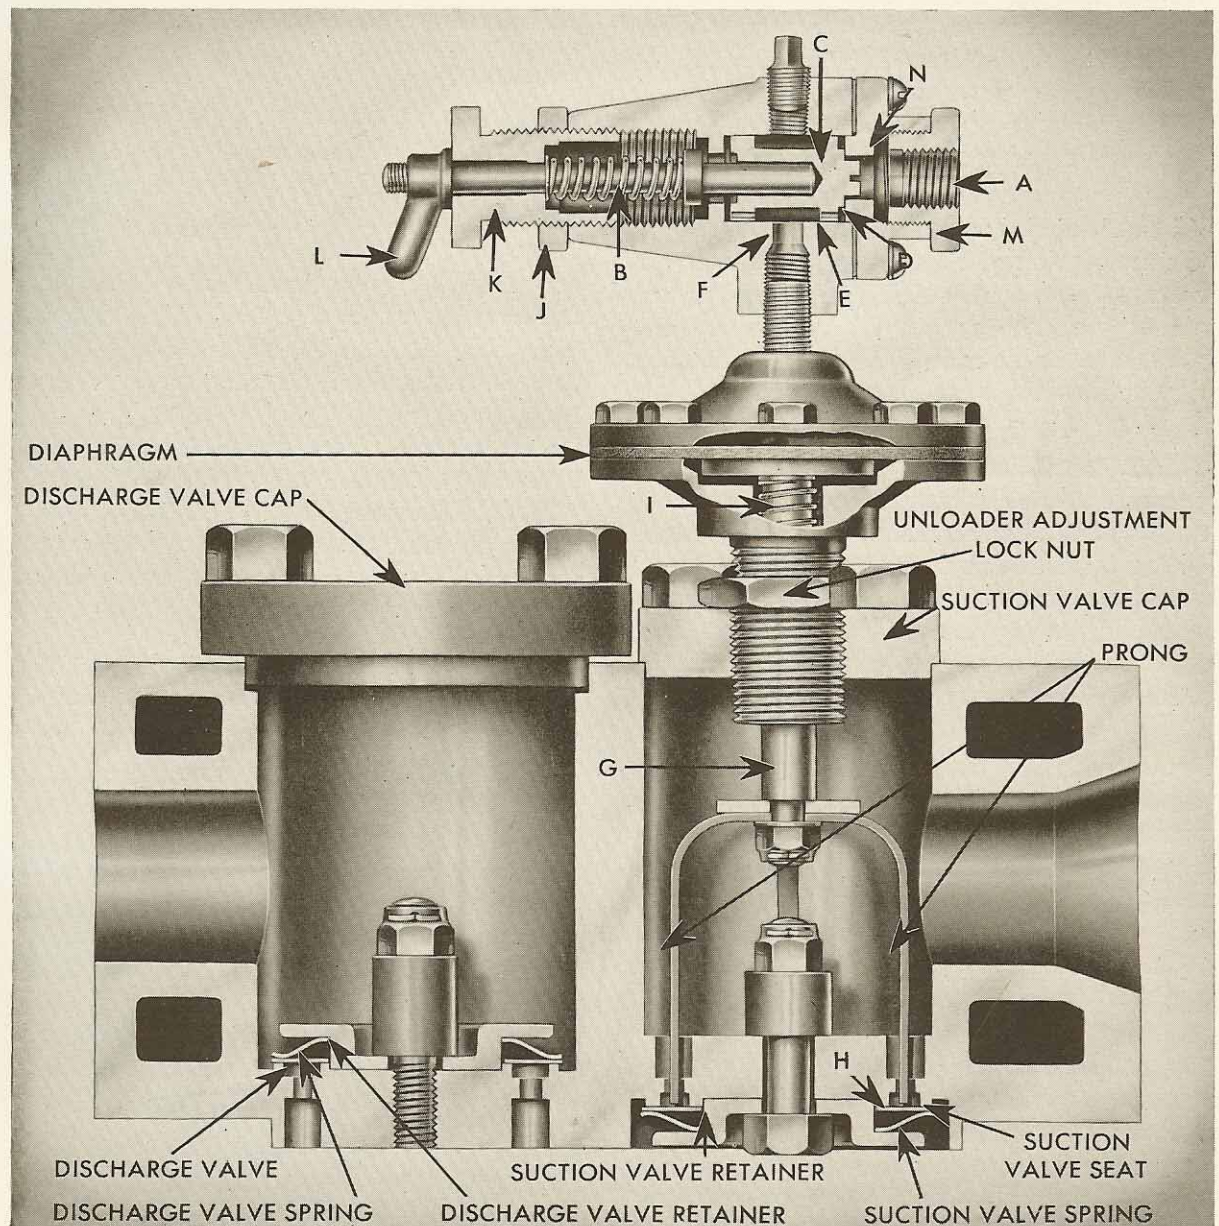

FIGURE 21-1
2. OPERATION OF UNLOADER: Figure 21-1 shows the compressor head and the position of the unloader as related to the suction valve.
when the air pressure in the storage tank reaches the desired pressure. When this pressure drops below a certain point, the unloader releases the suction valve, allowing the compressor to replenish the storage tanks. The opening (A), Figure 21-1, is connected to the air storage tank.
4. DISASSEMBLY OF THE SUCTION VALVE: Figure 21-1. Remove the cap screws which hold down the suction valve cap. Lift out the unloader assembly. Remove the cotter pin and nut from the bolt which holds the valve retainer. If the flat disc valve is badly pitted, rusted or cracked, it should be renewed. The curved valve spring should be renewed if it is badly corroded.